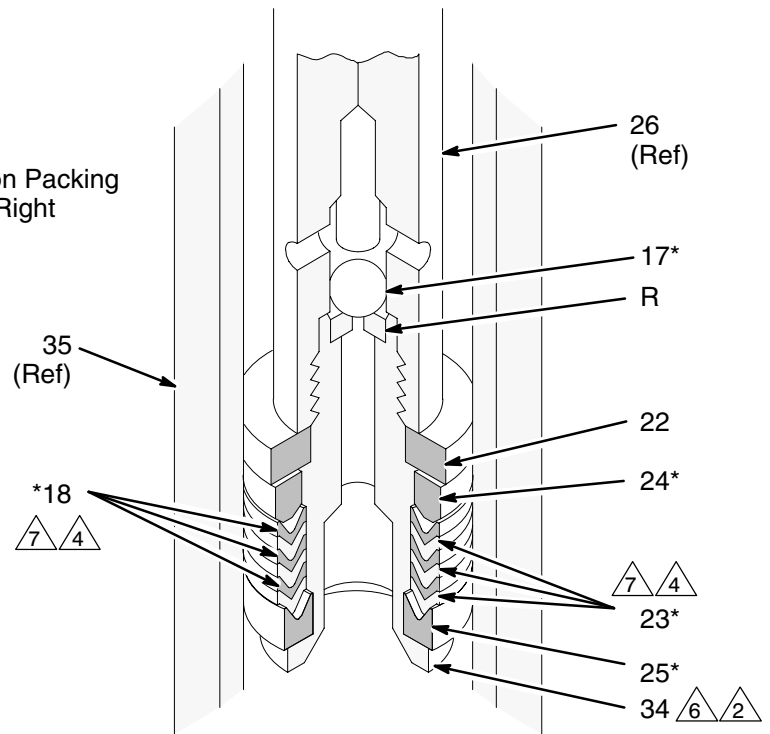

Fig. 5
When disassembling the pump, lay out all removed parts in sequence, to ease reassembly. Refer to Fig. 5.
2. Unscrew the intake valve housing (33) from the outlet housing (35). If it is difficult to remove, squirt penetrating oil around the threads and *gently* tap around the valve housing with a plastic hammer to loosen it. See Fig. 5.
3. Remove the ball stop pin (29), o-ring retainer (31), o-ring (30), guide (32) and ball (28) from the intake valve housing (33).
4. Loosen the packing nut (36). Push the displacement rod (26) down as far as possible, then pull it out the bottom of the outlet housing (35).
5. Secure the flats of the displacement rod (26) in a vise. Screw the piston stud (34) out of the rod. Remove the ball (17), retainer (22), packings (18, 23) and glands (24, 25).
6. Remove the packing nut (36), throat packings (18, 23) and glands (24, 25) from the outlet housing (35).
7. Inspect all parts for damage. Clean all parts and threads with a compatible solvent before reassembling. Inspect the polished surfaces of the displacement rod (26) and sleeve (20) for scratches, scoring or other damage, which can cause premature packing wear and leaking. To check, run a finger over the surface or hold the part up to the light at an angle. Be sure the ball seats of the piston (R) and intake valve housing (S) are not chipped or nicked. Replace any worn or damaged parts.
1. Lubricate the throat packings and install them in the outlet housing (35) one at a time as follows, *with the lips of the v-packings facing down*: the male gland (24\*), one leather v-packing (18\*), one PTFE (23\*), one leather (18\*), one PTFE (23\*), one leather (18\*), one PTFE (23\*), and the female gland (25\*). Install the packing nut (36) loosely. See the Throat Packing Detail in Fig. 5.
2. If you removed the sleeve (20), reinstall it in the outlet housing (35), making sure to replace the gasket (19\*). *Be sure the tapered end of the sleeve faces down, toward the pump intake.*
3. Lubricate the piston packings and install them onto the piston stud (34) one at a time in the following order, *with the lips of the v-packings facing up*: the female gland (25\*), one PTFE v-packing (23\*), one leather v-packing (18\*), one PTFE (23\*), one leather (18\*), one PTFE (23\*), one leather (18\*), the male gland (24\*), and the packing retainer (22). See the Piston Packing Detail in Fig. 5.
4. Use thread sealant on the piston stud (34). Install the piston ball (17\*) on the piston and screw the piston valve assembly into the displacement rod (26). Torque to 55–65 ft–lb (74–88 N.m).
5. Insert the displacement rod (26) into the bottom of the outlet housing (35), being careful not to scratch the sleeve (20). Push the rod straight up until it protrudes from the packing nut (36).
6. Install the ball (28\*), guide (32), o-ring (30\*), retainer (31), and ball stop pin (29) in the intake valve housing (33). Apply thread lubricant and screw the intake housing into the outlet housing (35). Torque to 55–65 ft–lb (74–88 N.m).